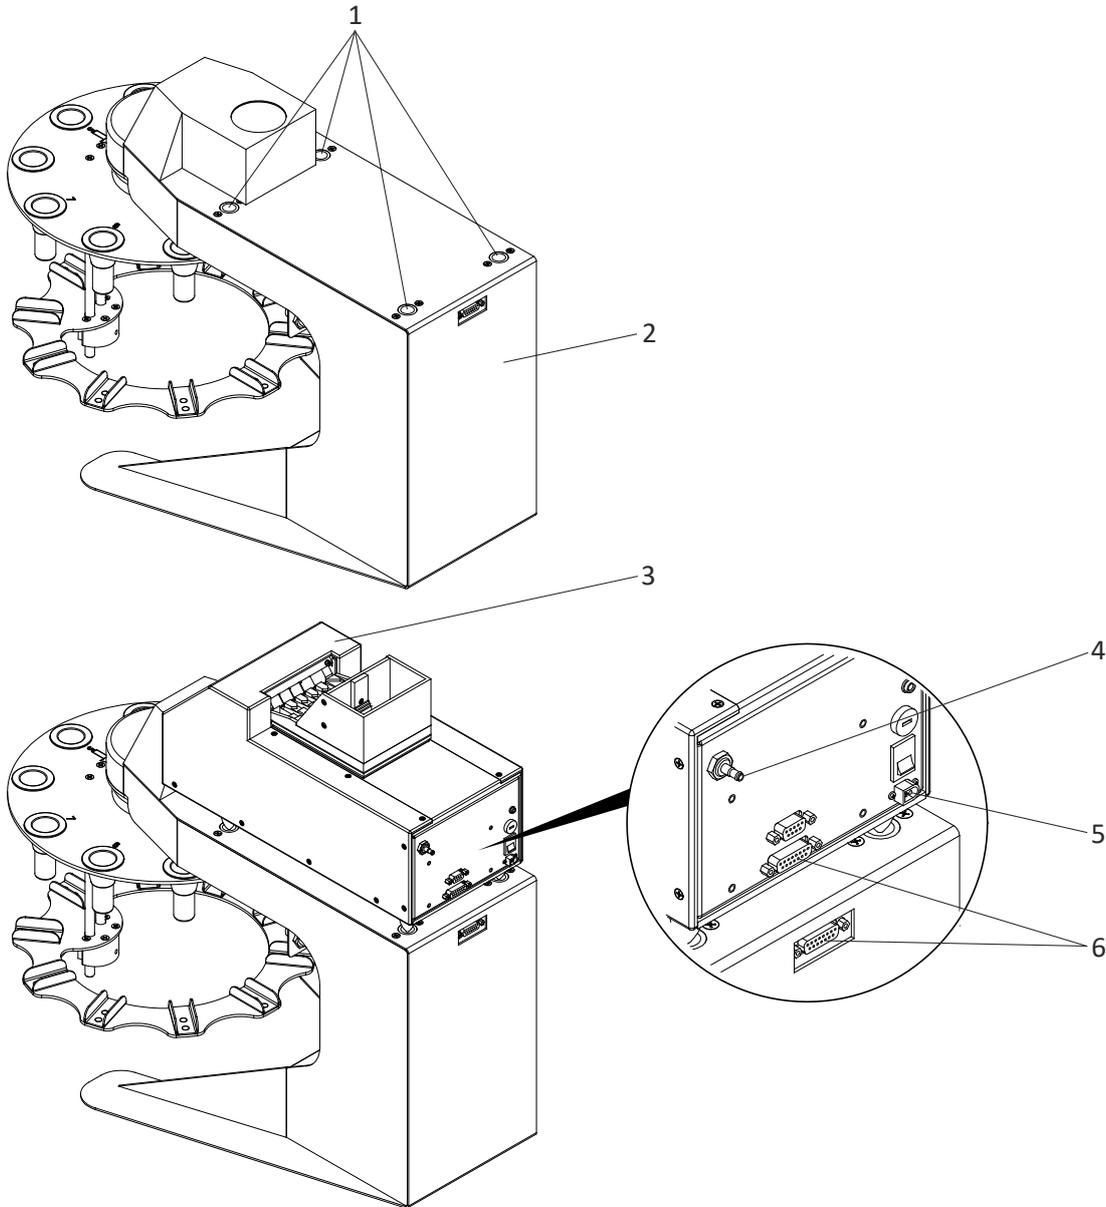

Figure 16: Position the CONTADOR 2 on the CONTAFILL 2 filling station
- ⇒ Position the CONTADOR 2 on the CONTAFFILL 2 filling station, as show in **figure 16**.